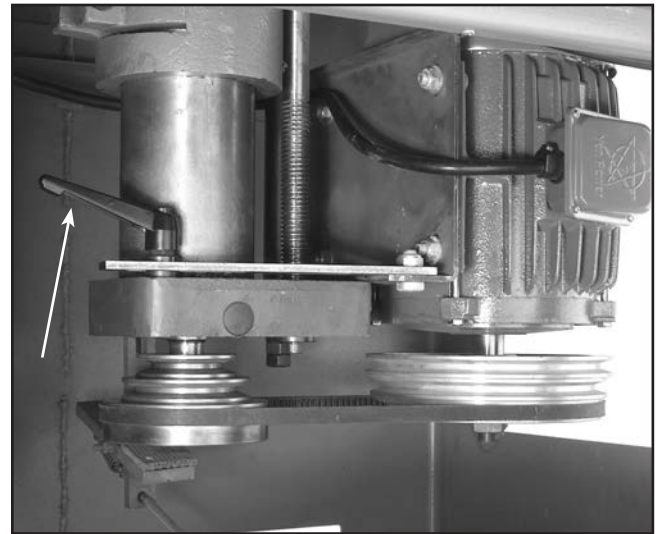

Figure 9. Belt tensioning lever.
2. Turn the belt tensioning lever (shown in **Figure 9**) counterclockwise to loosen the adjustment bracket.